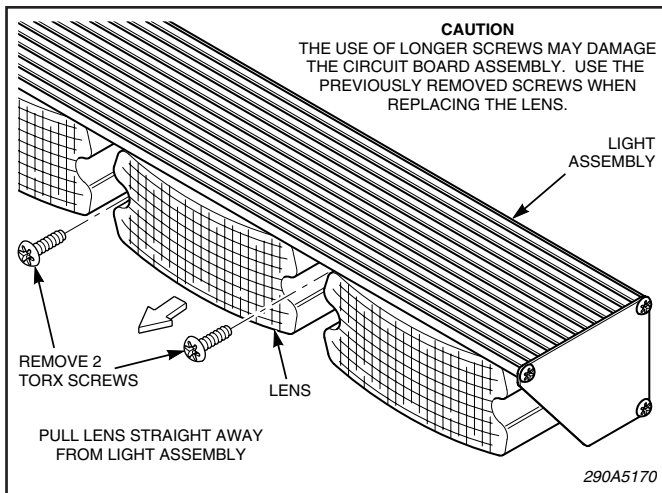

Figure 4.
1. See figure 4. Remove and retain the two screws which secure the lens. Carefully pull the lens straight away from the light assembly.